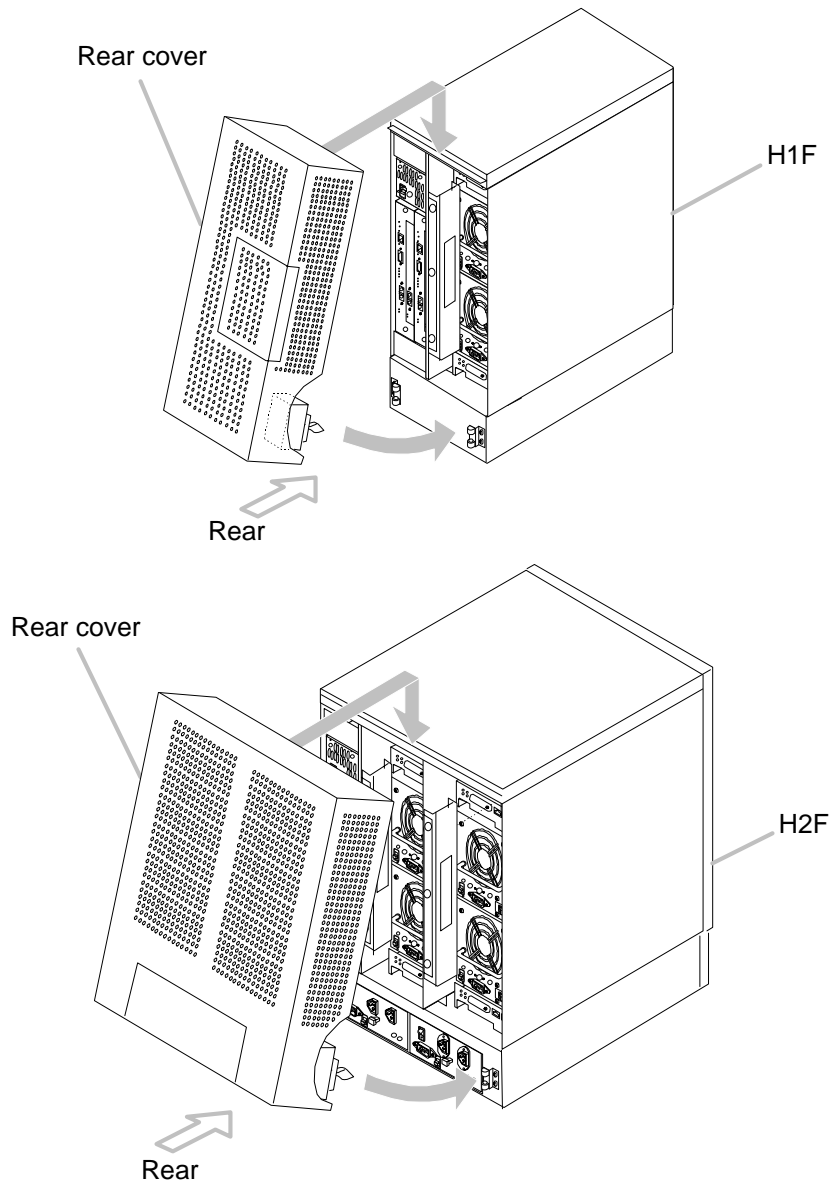

Figure 4.34 Attach the Rear Cover
12. Attach the rear cover. (see figure 4.34)